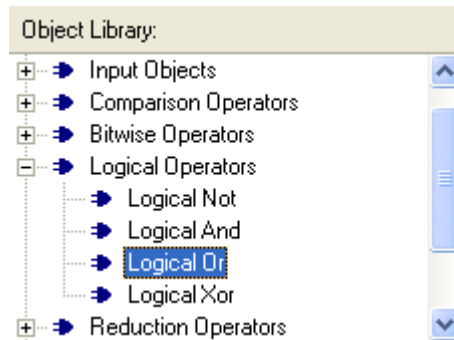

Figure 19. Select the Logical Or operator from the Object Library window and drag this into the editing window.
5. We now need to add the necessary logical operators to our circuit. We will need an OR gate as well as three edge level detectors. To access the OR gate, click on the plus sign next to Logical Operators and select Logical Or, as in Figure 19. Then drag and drop the operator into the editing window.